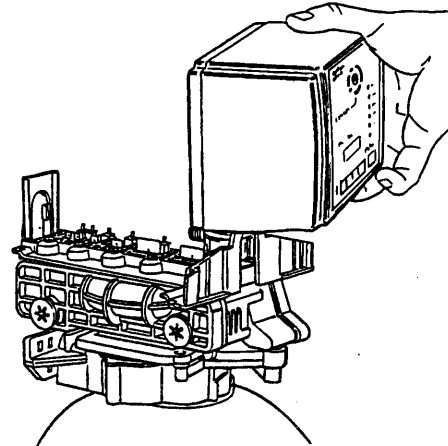

Figure 18
8. Lift the control off the valve, Figure 18. To replace the control, reverse the above procedure. Note that the camshaft needs to be positioned correctly before it can be inserted into the back of the control. There is a locating rib on the camshaft. Position the rib on the top of the shaft and slide the camshaft into the control. Engage the camshaft back into the rear "hoop" of the top plate.